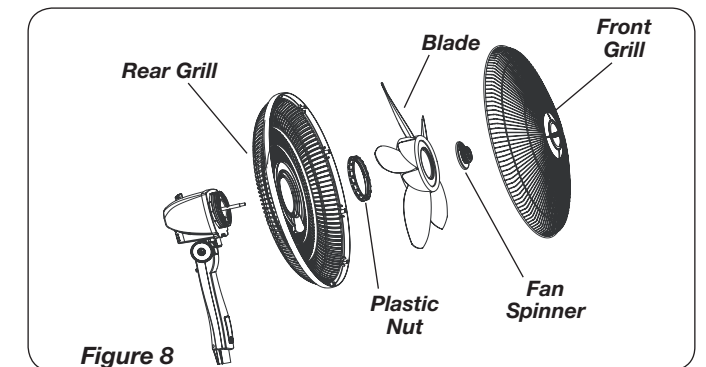
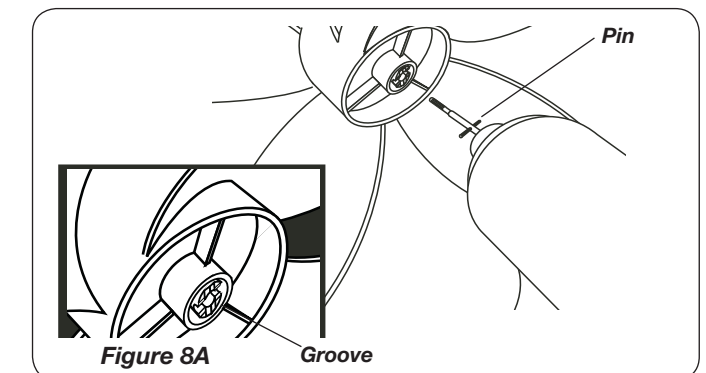

Figure 8
Figure 8A Groove
3. Fully seat Rear Grill and secure with Plastic Nut turning Clockwise. Slide Blade onto Motor Shaft. (Figure 8) Align Groove on blade hub with Pin on motor shaft. (Figure 8A)